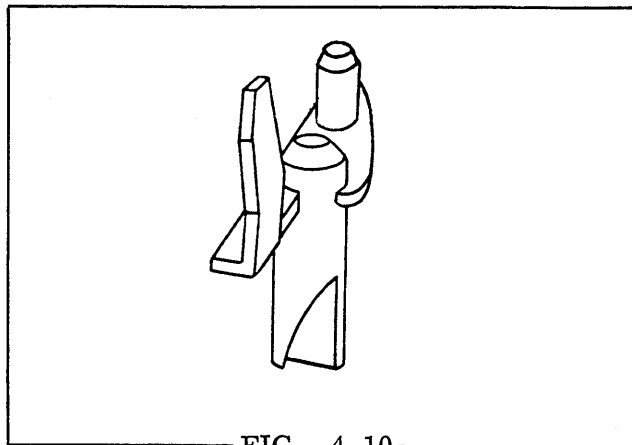

FIG. 4.10
11. Metering Valve and Arm - Check the metering valve body for excessive wear. Be sure the metering valve arm is well seated and that there is no radial movement of the arm on the valve. Check the metering valve spring for distortion and the metering valve arm pin for wear or looseness (Fig. 4.10).